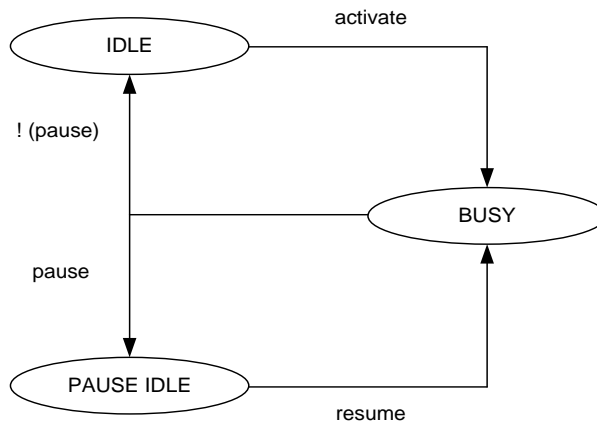

Figure 3-122 SPI Pause Mode State Transition
Unlimited length for transmission using the dedicated pause mode	Achieved by the pause mode operation. In this mode, the CS_N signal is always active (in other modes, normally low) after the transmission. At this time, the SPI controller is in the PAUSE_IDLE state and ready to receive the resume command. Refer to Figure 3-122 for the state transition.
2. Set the timing and protocol for the SPI transmission (see Figure 3-122 for detailed setup parameters).